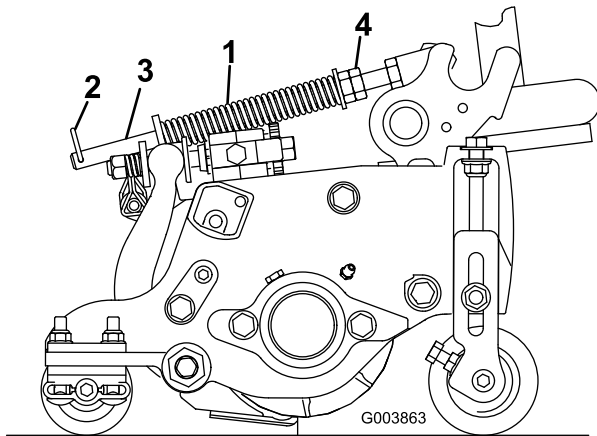

Figure 12
The turf compensation spring (Figure 12) transfers weight from the front to the rear roller. (This helps to reduce a wave pattern in the turf, also known as marcelling or bobbing.)
1. Make sure the hairpin cotter is installed in the rear hole in the spring rod (Figure 12).
2. Tighten the hex nuts on the front end of the spring rod until the compressed length of the spring is 12.7 cm (5 inches) on Reelmaster 5210 & 5410, 5 inch cutting units or 15.9 cm (6.25 inches) on Reelmaster 5510 & 5610, 7 inch cutting units (Figure 12).